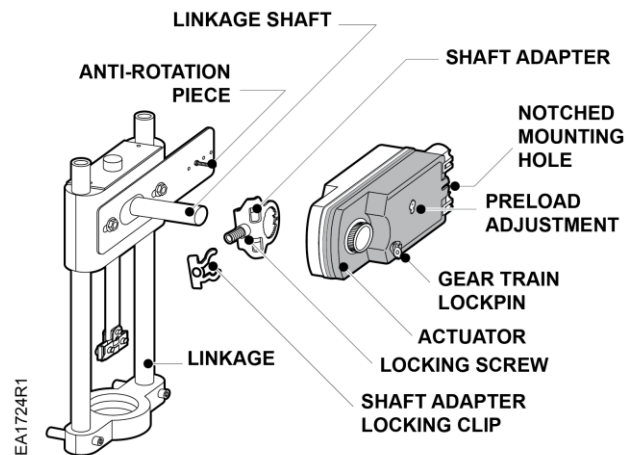

Figure 9. Mounting Actuator on Linkage for Normally Closed Control Application.
## Normally Closed Control Applications (Figure 9)
2. With the shaft adapter locking screw loose, open the rubber cover and insert the 3 mm hex key in Manual Override opening (Figure 9).